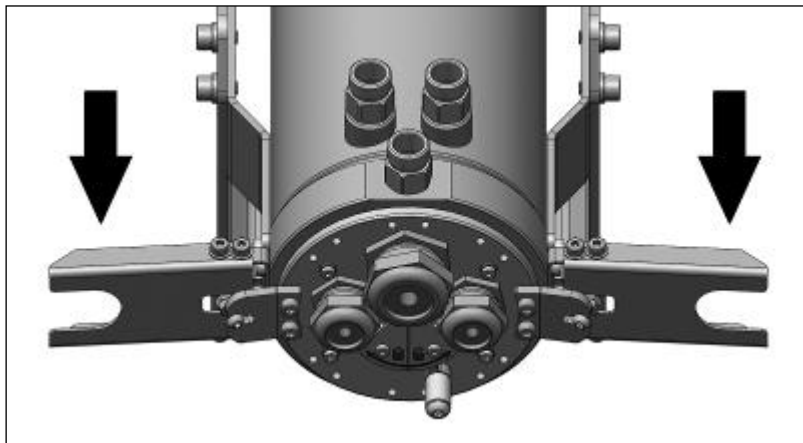

Figure 35: Unlocking of the hinge
5. Dismount in reverse order (**Figure 35**).